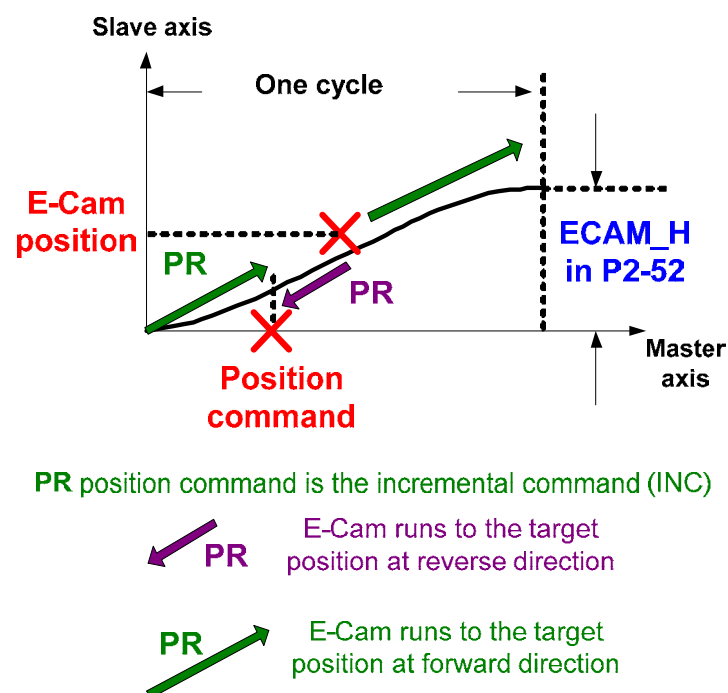

Figure 3.8.23 Macro D
4. Value of P2-52 has to be set as the error between the slave axis position at the end of the cycle and the position at the beginning of the cycle (Last point - First point). See Figure 3.8.23.